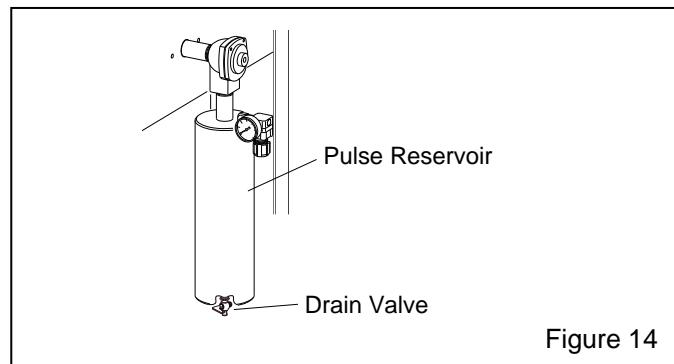

Figure 14
3.4.4 Drain the pulse reservoir. The drain valve is mounted at the bottom of the reservoir, as shown in Figure 14. Drain whenever the air supply to the pulse regulator is turned off.